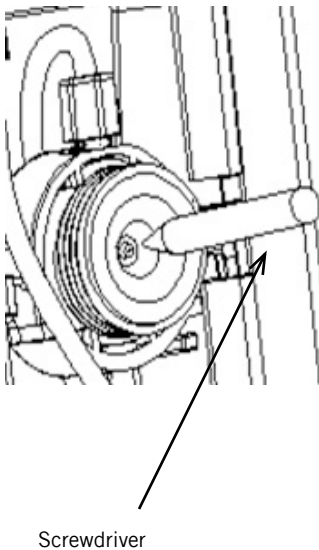

Fig. 13
1. Remove the old seal, for example with a small screwdriver, a toothpick or similar pointed object (Fig. 13). **Make sure that the small parts do not fall into the lid.**